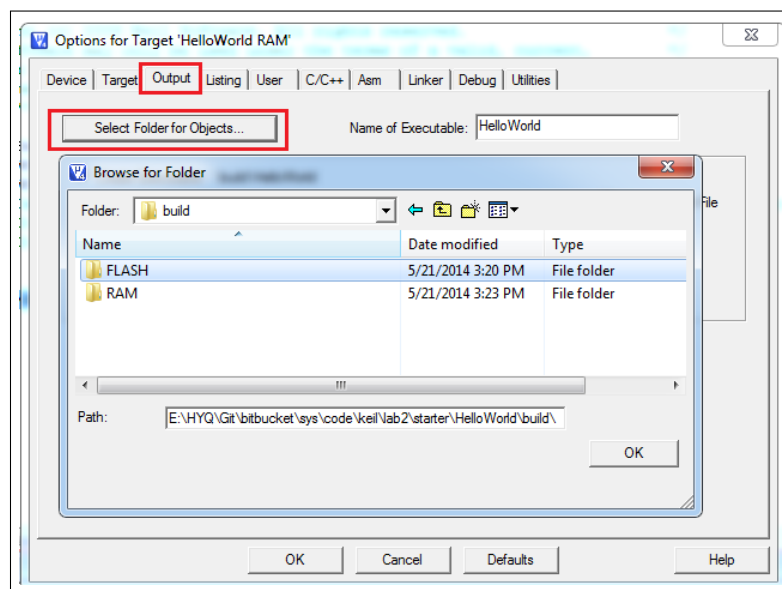

Figure 7.12: Keil IDE: Selecting Output Folder
- Click the Target Option button and select the Output tab. Click the “Select the Folders for Objects” button to bring up the Browse for Folder dialogue box (see Figure 7.12). You will chose the FLASH folder if you want to build the HelloWorld SIM target and RAM folder if you want to build the HelloWorld RAM target. Similarly, you could select the Listing tab to specify the location of the listing files.